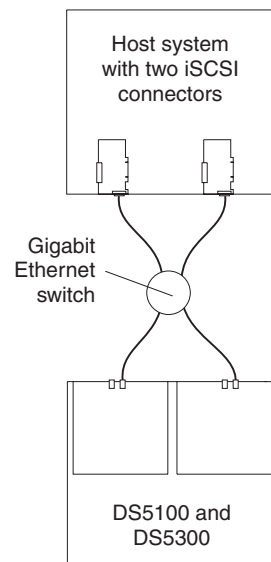

Figure 83. Example of a single-host, multiple-port configuration
- Single-host, multiple-port configuration, as shown in Figure 83
Figure 83 shows an example of a multiple port, single-host configuration. A system that uses multiple iSCSI ports can provide enhanced performance compared to a single-port iSCSI connection.